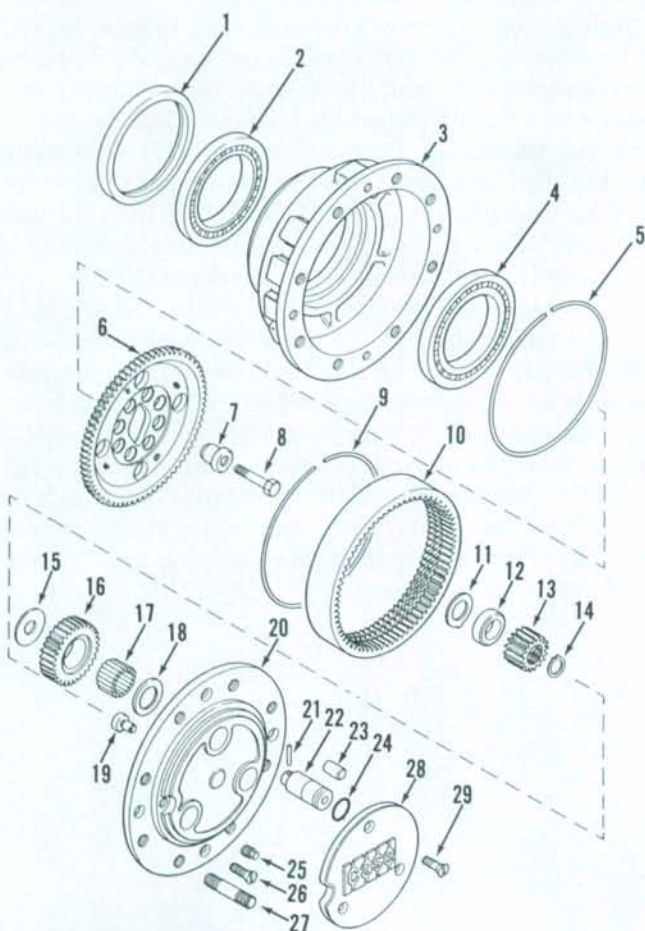
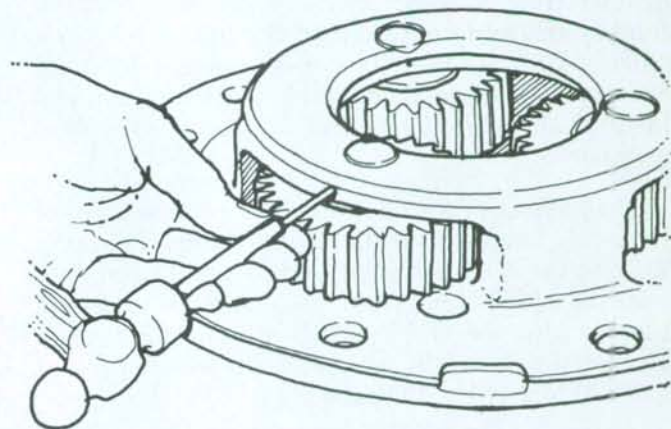

Fig. 5—Exploded view of front drive axle wheel hub and planetary assembly.
Fig. 6—When disassembling planetary, drive out shaft roll pins as shown.
6. R&R AND OVERHAUL. To remove either front wheel hub and planetary, loosen wheel lug nuts, then raise and support axle housing. Remove front wheel assembly. Rotate hub until oil plug (25—Fig. 5) is at bottom position. Remove plug and drain oil. Remove two screws (26) and locate the two special wheel studs (with collar). Install two nuts on each stud and lock them together. Unscrew and remove the special studs. Using large screwdrivers or pry bars, separate planetary carrier (20) from wheel hub (3). Remove three screws (29) and lift off cover (28). Number the carrier, planetary gears (16) and shafts (22) for aid in correct reassembly. Drive out roll pins (21) as shown in Fig. 6. Place outer edge of planetary carrier on blocks, then drive out shafts (22—Fig. 5). Remove and discard "O" rings (24). Remove planetary gears (16), washers (15 and 18) and bearing rollers (17).